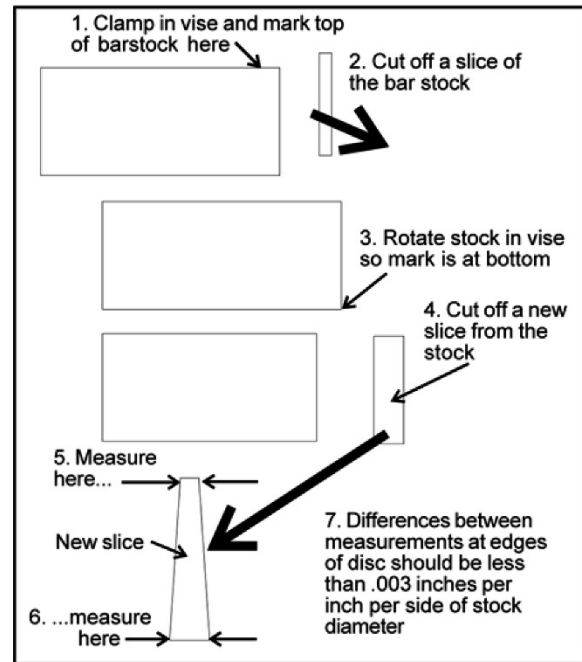

Figure 7-10
- With bar stock securely clamped in vise, make a cut through the bar stock. (See Figure 7-10.)